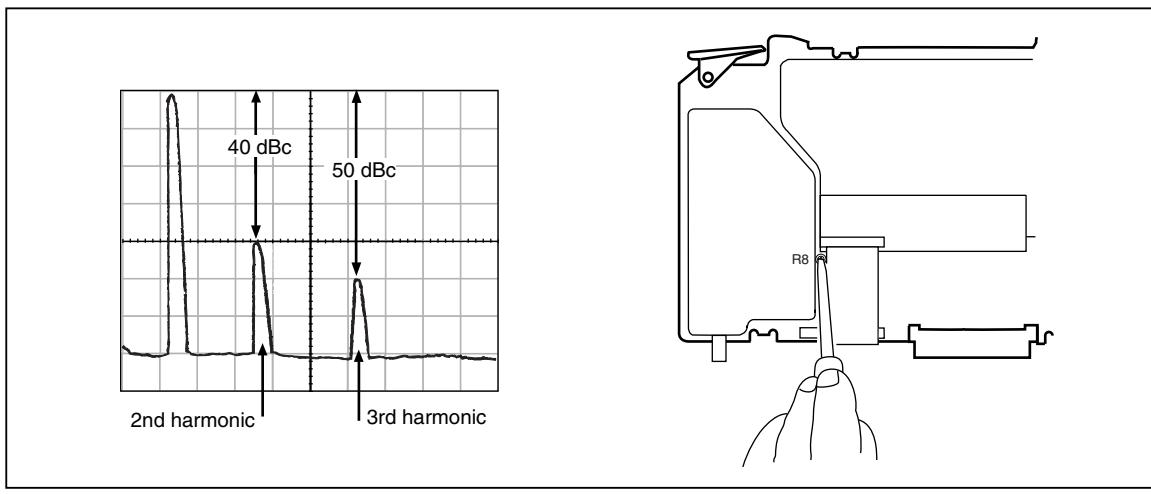

Figure 7-17. Leveled Sine Wave Harmonics Adjustment
3. Use the Peak Search function of the spectrum analyzer to find the reference signal. The spectrum analyzer will show the fundamental and second and third harmonics. The harmonics must be adjusted so that the second harmonic is at 40 dBc and the third harmonic is typically at 50 dBc as shown in Figure 7-17.